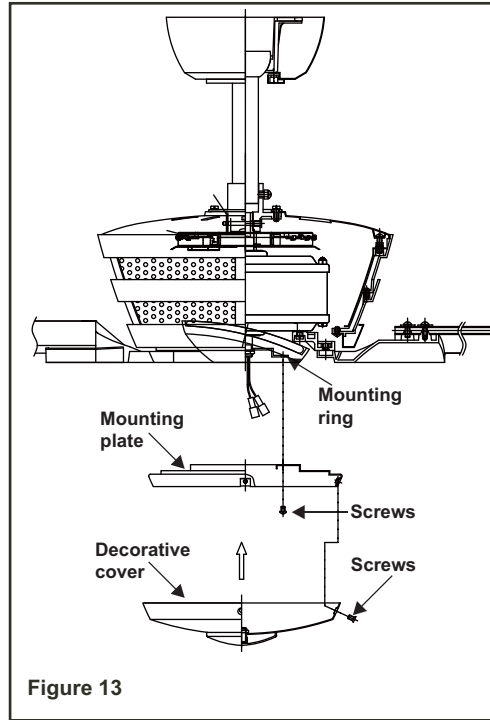

Figure 13
Step 2. Place the key holes in the mounting plate over the two screws previously loosened from the mounting ring. Turn the mounting plate until the mounting plate locks in place at the narrow section of the key holes. (Fig. 13)